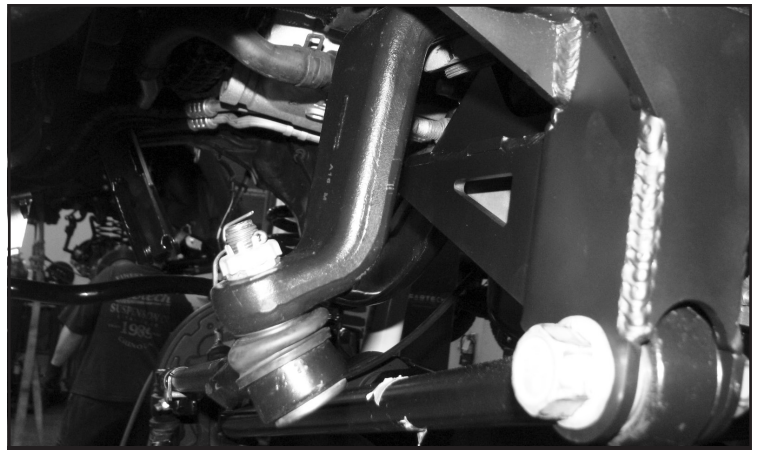

FIGURE 16 - STEP 22
22. Reinstall the track bar to the new frame bracket. Torque to 406 ft-lbs. Install the draglink to the new Fabtech pitman arm using the factory hardware and the new supplied cotter pin. Torque to 129 ft-lbs **NOTE: The drag link will need to be rotated 180 degrees and installed from the bottom side of the pitman arm. SEE FIGURE 16**